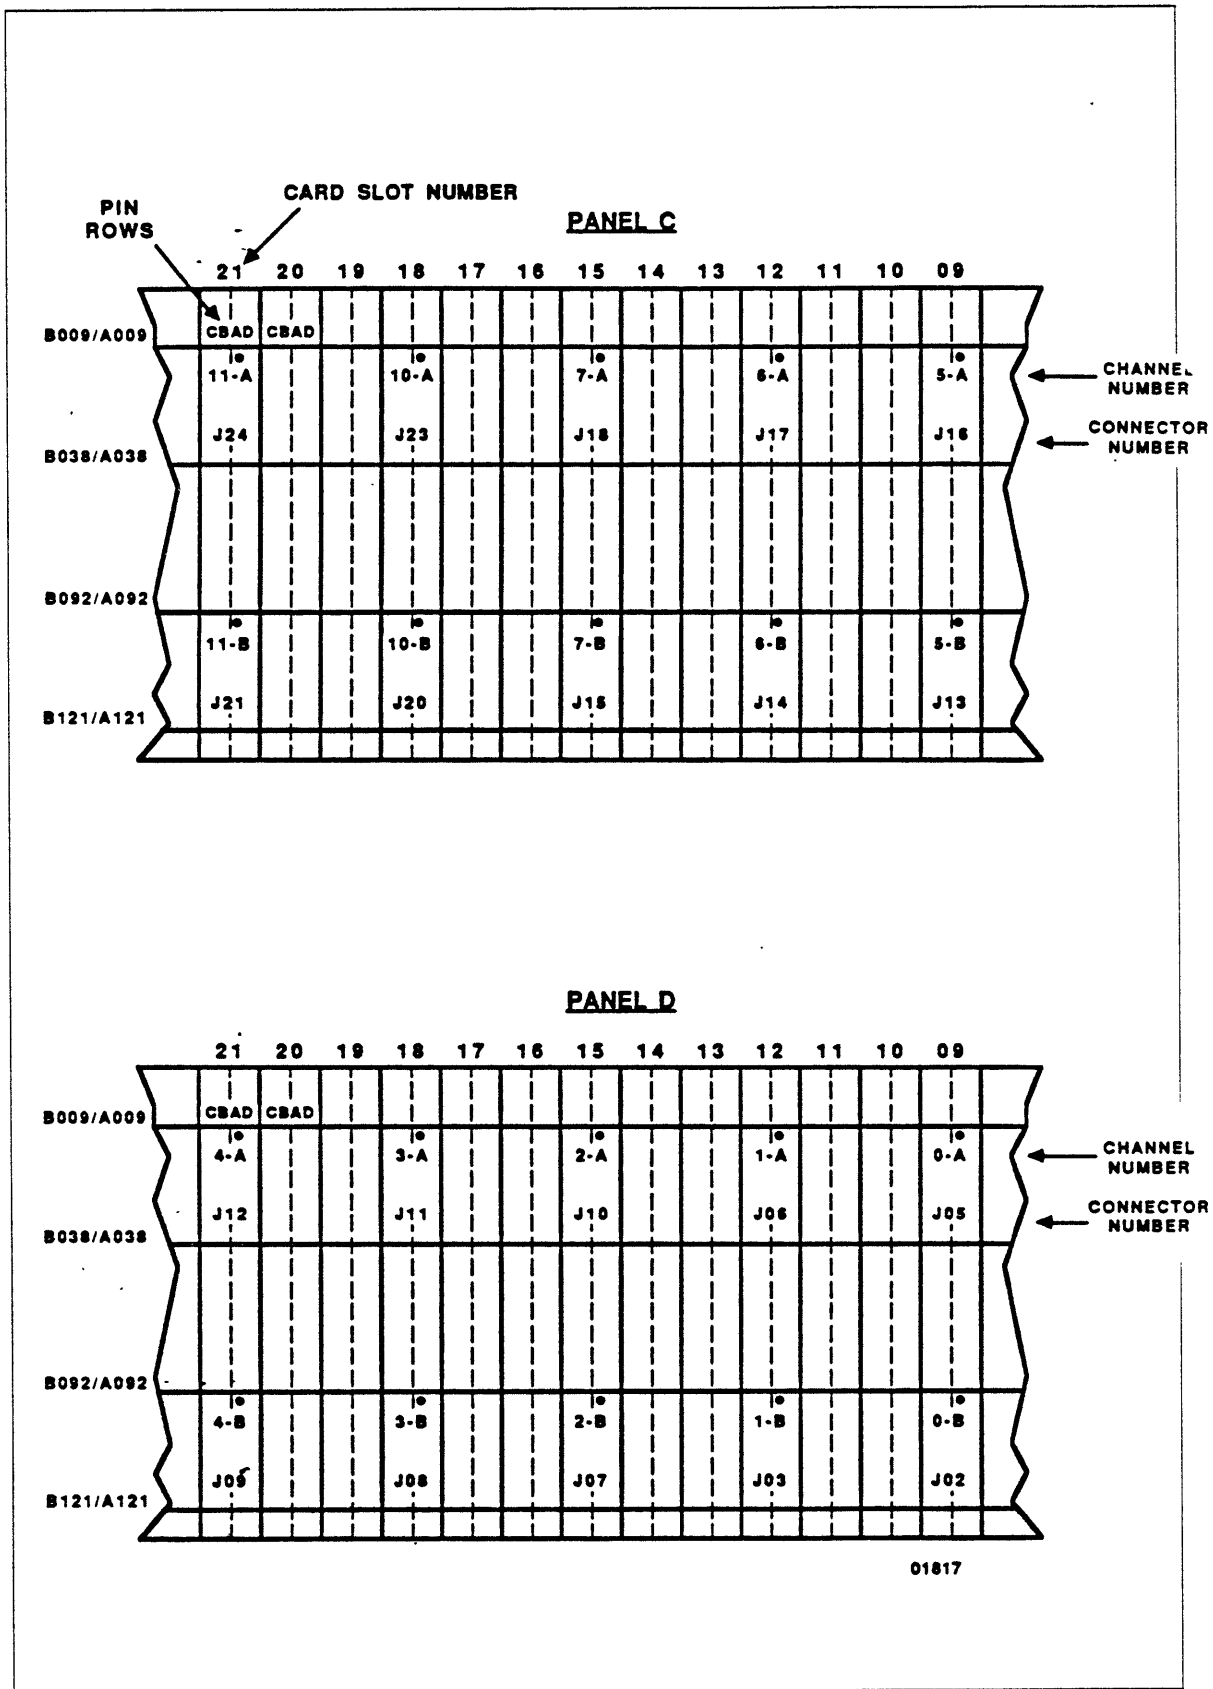

Figure 7-5. ISI/IPI Channel Backpanel Pin Location
- \_\_\_ b. Plug A Berg connector on to backpanel pins rows BA of channel location determined by figure 7-5. Top of connector plugs on to pin 9.